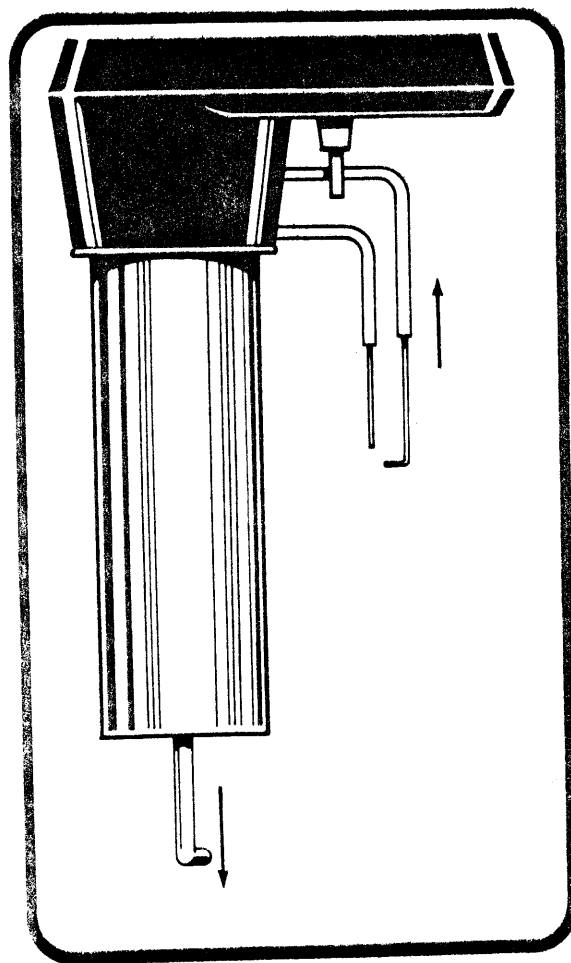

Figure 8-1
- 1) Remove the Probe assembly and hold it in your left hand so that the black cap is pointing upwards. See Figure 8-1.
- a) Replace the probe. Dispense 0.3 ml of reagent only into a **FibroTube** Cup. Place a cup into the reaction well. With the **Fibrometer** switch in the ON position, depress the Timer bar to activate the machine. If the probe does not drop and the detection and timing mechanisms do not begin to function, repeat steps 1 and 2. If this does not correct the problem, call **BBL**, Hot Line (800) 638-8663.